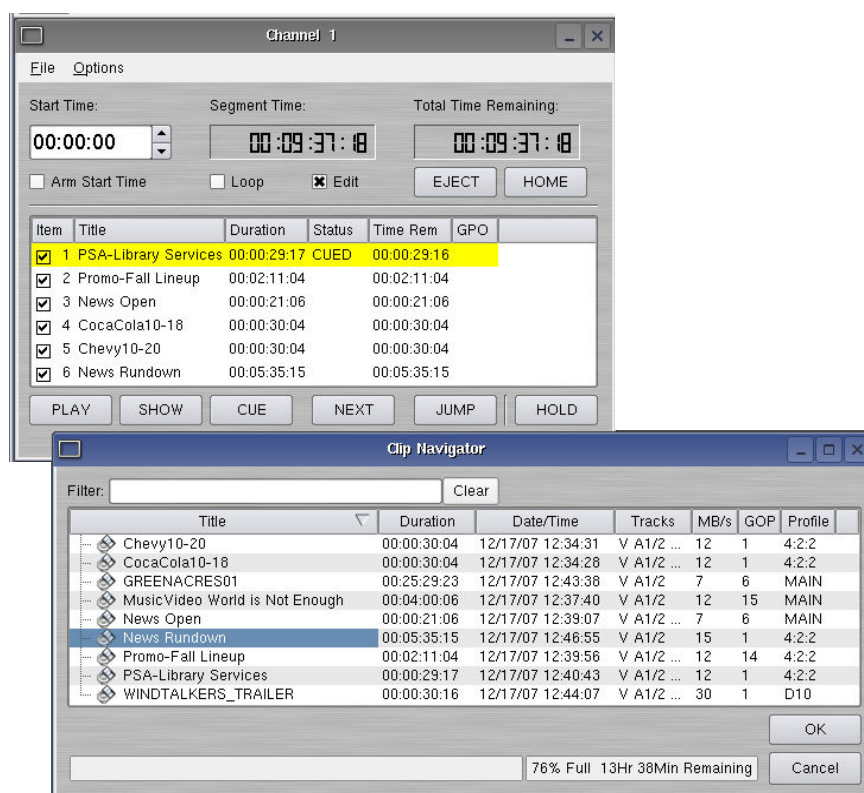

Figure 19 - Channel 1 playlist with Clip Navigator
- Change the transport for Channel 1 to the **Playlist View**. Click **FILE->PLAYLIST** in the Channel 1 transport pulldown menu. The window of Figure 19 appears.